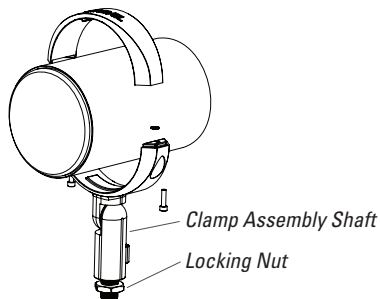

Figure 3
2. Screw the threaded shaft of the clamp/speaker assembly onto the mounting bracket. Once oriented in the in the desired direction, tighten the locking nut with a wrench (not supplied) to lock the position (see Figure 3).